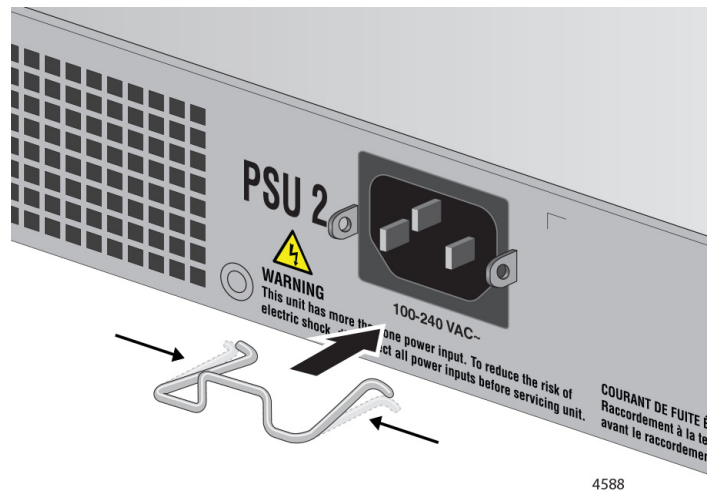

Figure 67. Installing the Power Cord Retaining Clip
1. Install the power cord retaining clip on the AC power connector on the rear panel of the switch. Refer to Figure 67.